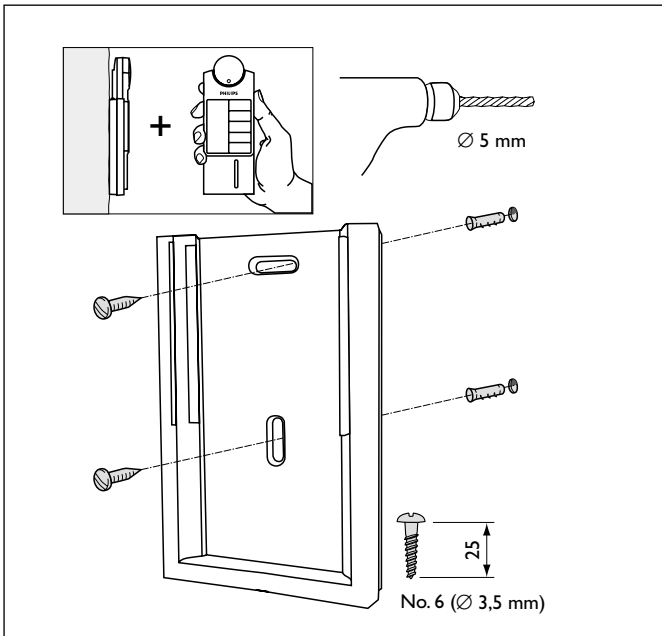

Figure 5a: mounting the wall holder
- Mounting : with screws or double-sided tape (see figure 5a)
The transmitter can be placed in a wall holder. If necessary the transmitter can be locked in the wall holder. For details see figure 5a and 5b: mounting the transmitter.